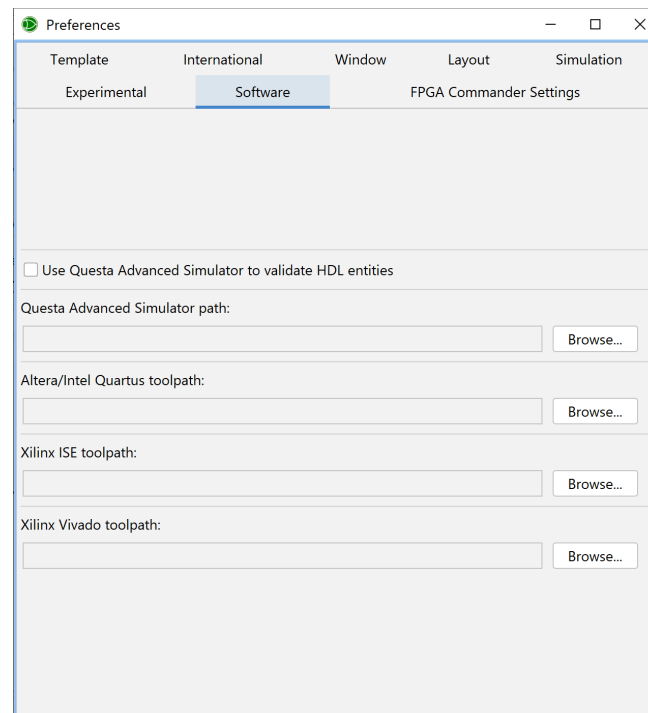

Figure 1.5: The Preferences: Software tab
7. Navigate to the **Software** tab (Figure 1.5). Click on **Browse** next to the **Altera/Intel Quartus** toolpath. An open folder dialogue should open.